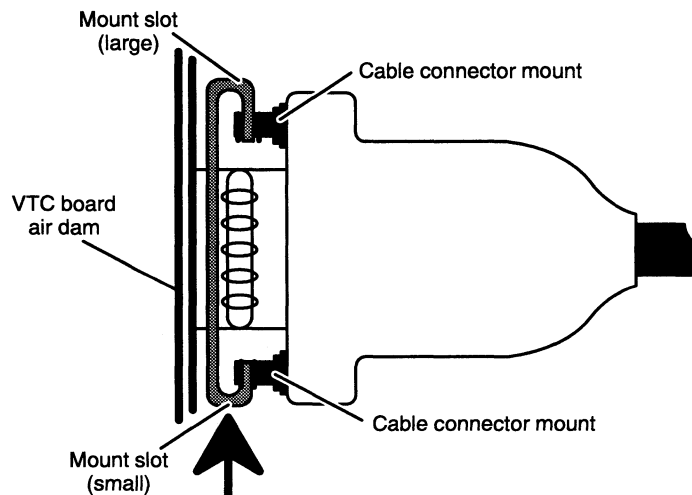

Figure 4-24 Securing a LAN Drop Cable to a VTC Connector
- Push the edge of the slide clip into position, so the small mount slot surrounds its cable connector mount. Figure 4-24 illustrates how to secure a slide clip connection.